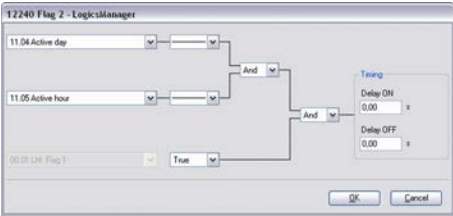

Fig. 203: LogicsManager function "Flag 2"
2. ➤ Configure the LogicsManager function "Flag 2" (parameter 12240 ↵ p. 410) as shown in (Fig. 203).